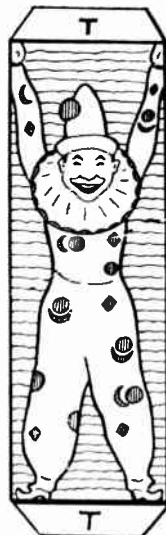

Fig. 2—The figure
In Fig. 2 we see how the clown is painted on the two plain sides of the wood block.
If several of these toys are being made for sale, perhaps, there will be no need to mark out each figure separately. Draw one out in outline on metal or cardboard, making this a template for drawing round in pencil direct on to the wood. A strip of the template material may be left on each end to bend over the wood to hold the former in place while pencilling in the outline (see (T) in Fig. 2).